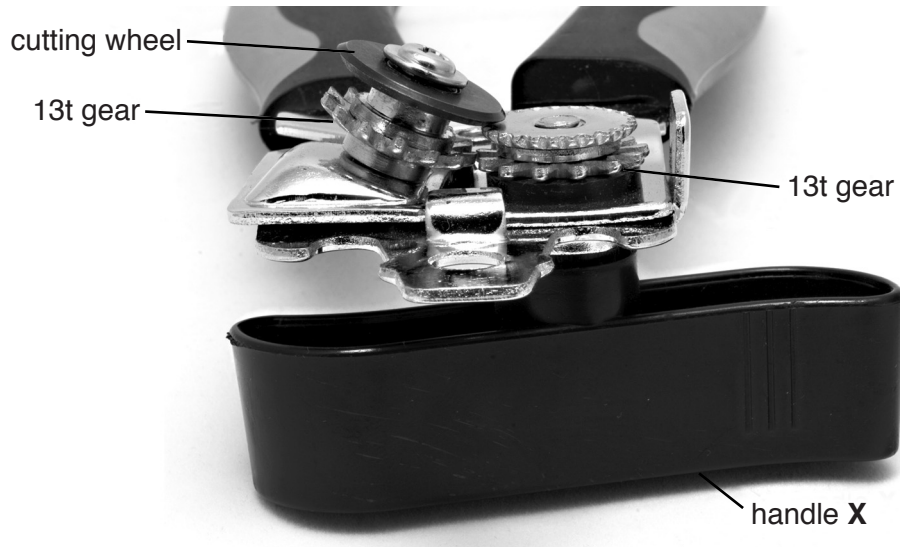

Fig. 4
- 5 Fig. 4 shows a close-up view of the can opener mechanism. Describe **two** effects of using gear wheels with the same number of teeth.